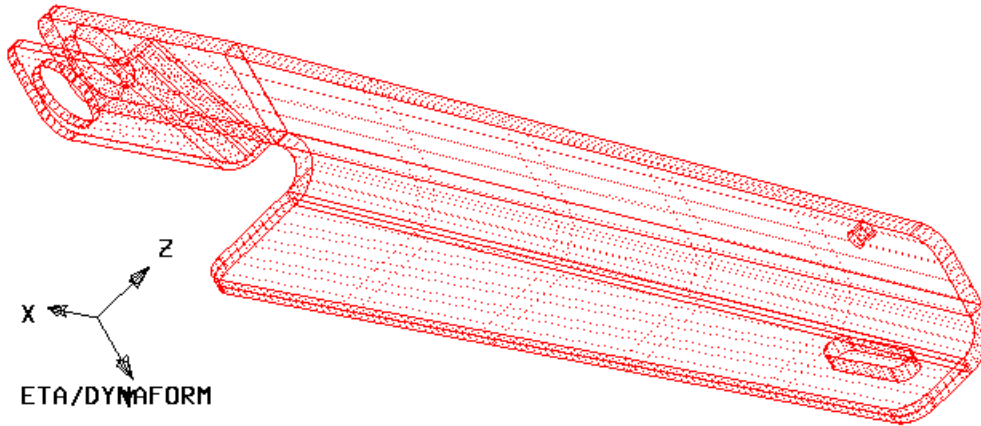

Figure 5.2.4 Select all surfaces used to generate mid surface
This function enables the user to generate middle surfaces of 3D sheet-metal parts. After clicking on this function, the Select Surface dialog box appears to prompt the user in a message to select all surfaces in the entire solid model. If users only need to generate middle surfaces of partial solid model, they can select the corresponding surfaces, as shown in Figure 5.2.4.
1. Once this function is selected, the SELECT SURFACE dialog box appears and enables the user to select all the surfaces of the solid part. See Figure 5.2.4.